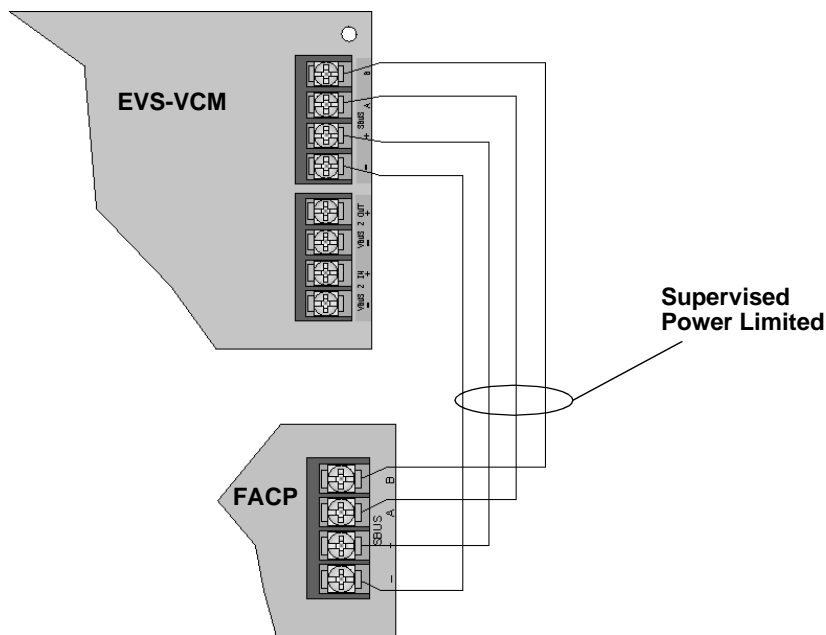

Figure 4-3 SBUS Connections
Refer to Figure 4-3 to properly connect the EVS-VCM to the FACP's SBUS.
2. Disconnect the SBUS connections from the SBUS terminals on the EVS-VCM. See Figure 4-3.